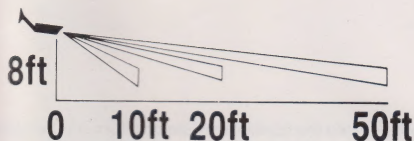

FIG. 5
1. For ideal operation and maximum coverage of area the unit should be mounted 8'5" above the ground under a house overhang or on the outside wall of the house. The unit may also be mounted indoors and should be wall mounted. If mounting the unit at 8'5" is impractical, the unit may be mounted either higher or lower however the effective "target area" may vary from the specifications stated in this manual. See figures 5 and 6.
5. Aim the control module to the desired target area. (Figure 5 and 6)